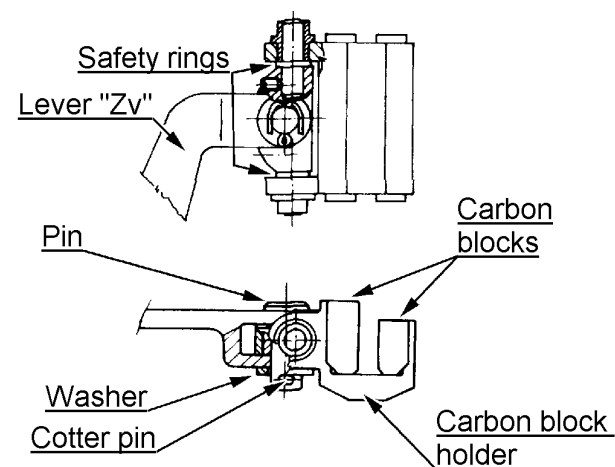

Figure 11-6 Carbon block assembly
(9) Verify the carbon block assembly (figure 11-6) for damage and completeness.
- (16) If the propeller is installed, remove carbon block assembly from lever "Zv" (figure 11-6).
- (20) Install the carbon block assembly (figure 11-6) onto the lever "Zv" and the beta-ring. Install the washer onto the pin and safety with cotter pin 1,6x10.